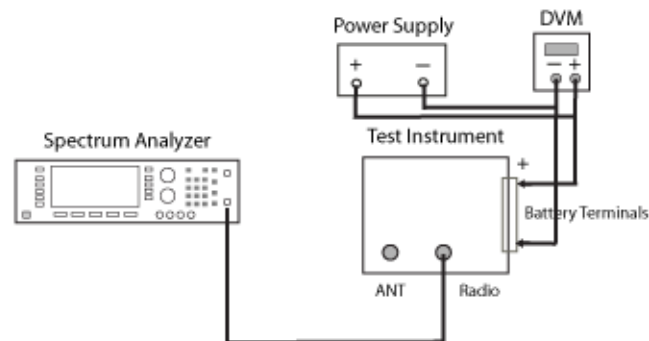

Figure 9 Receiver Test Setup
- 1 Connect the equipment as shown in Figure 9.